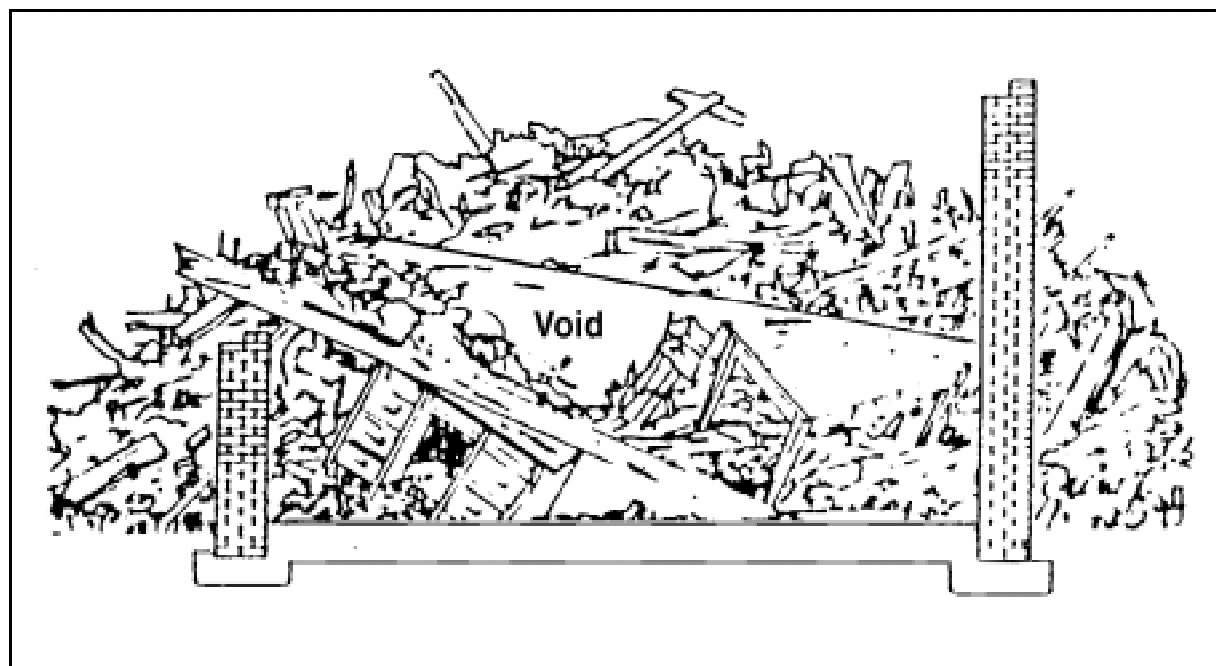
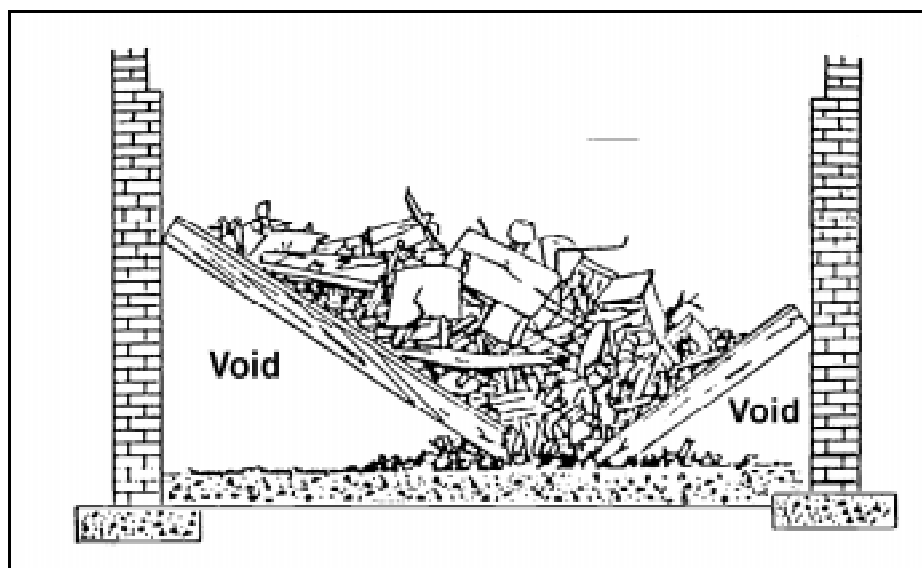

Figure 8-12. Pancake collapse
Figure 8-13. V-type collapse
**8-66.** When the floor supports fail in any building, the floors and roofs may drop in large sections, causing the floors and roofs of the lower levels to collapse (pancake collapse, Figure 8-12, page 8-20). When heavy loads of furniture and equipment are located near the center of a floor, the excess weight may cause the floor to collapse. Figure 8-13, page 8-20, shows a *V*-type collapse.